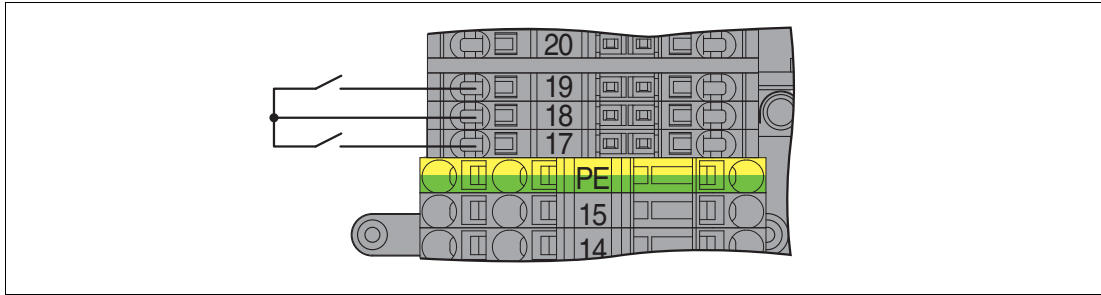

Figure 4.6 Output shutdown connection
1. To use the output shutdown of the I/O modules on slots 1 to 10, replace plug-in jumper 18/19 with an external, volt-free contact. See Figure 4.6.
2. To use the output shutdown of the I/O modules on slots 11 to 20 (not for FB9261BP10220.X), replace plug-in jumper 17/18 with an external, volt-free contact. See Figure 4.6.